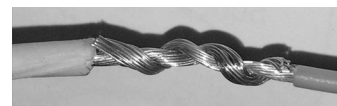

FIG. 56
3. Connect two (or more) wire ends together by twisting the stripped wire ends of wires together (FIG. 56).